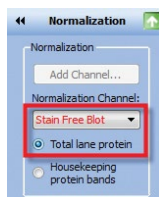

Fig. 7. Stain-free blot as the normalization channel.
- Return to the Analysis Tool Box and select **Normalization**. Assign **Stain Free Blot** as the normalization channel (Figure 7). Ensure the **Total Lane Protein** radio button is selected (default setting)